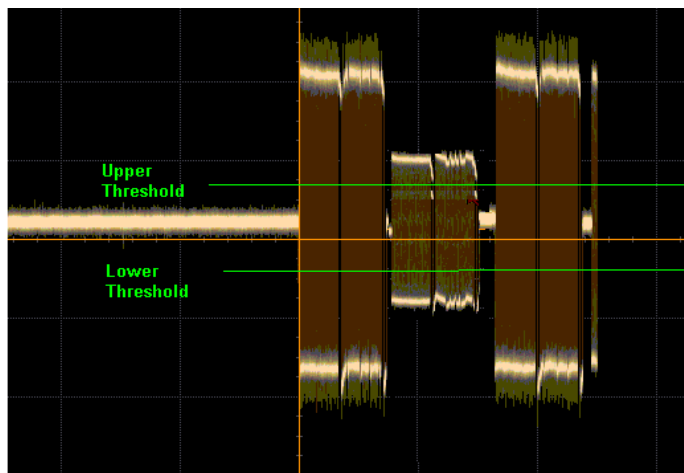

Figure 36 Correct Threshold set
- Upper Threshold/Lower Threshold** – The threshold level of signal must be set properly so that both upper and lower thresholds cross both the source and sink signals when the DUT is attached with a reference sink. The threshold levels are important parameters because they are used for edge detection when decoding a source command from a sink reply. Figure 36 and Figure 37 shows correct and incorrect threshold levels.